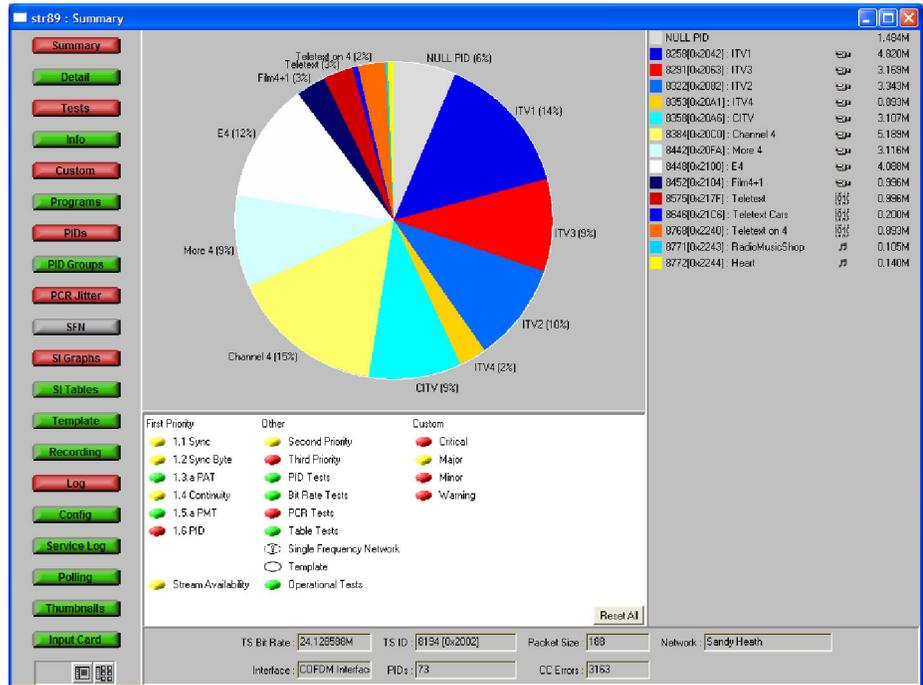

Figure 10: Stream view example
6. After you log on to the MTM400 monitor, the Hotspot view is displayed (see Figure 9). Click the **Stream** button to open the Stream view. Figure 10 shows an example Stream view.